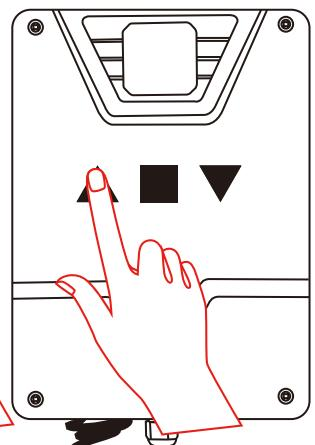

Figure 14
Step 5. Press and hold the “**UP**” button to open the gate, until the gate is opened in position then release the button. Press the “**STOP**” button to confirm the opened fully position. Then it will auto exit the operation. Set opened and closed in position(Adjust the vertical and horizontal line of barrier boom) successfully. Fig 14